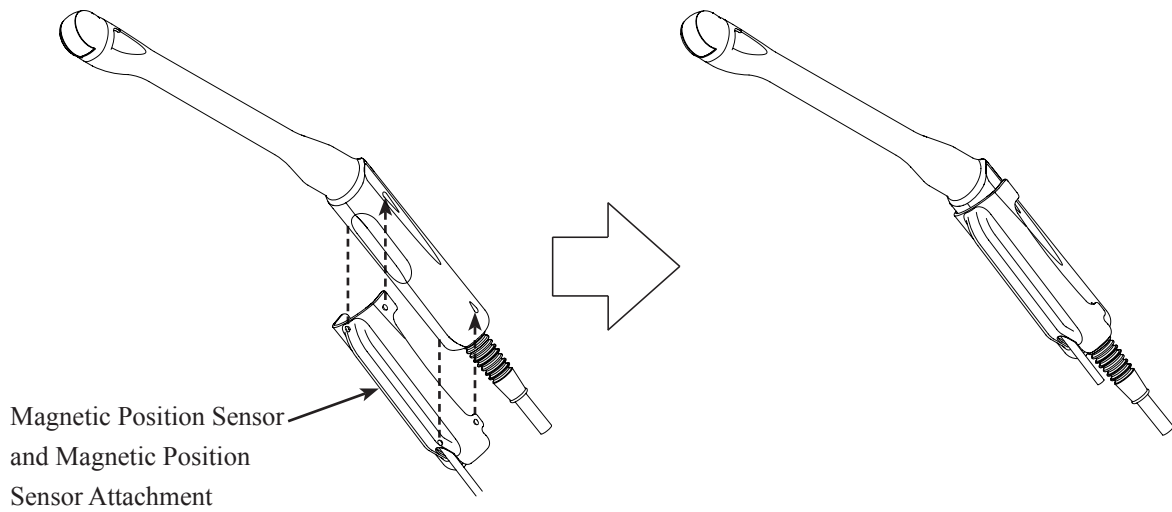

Figure 5 How to attach Magnetic Position Sensor Attachment
- (3) Attach the magnetic position sensor attachment to the probe as shown in Figure 5.